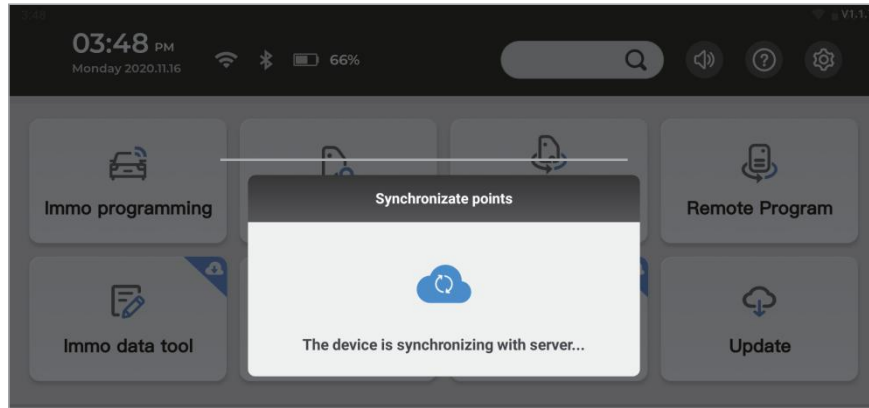

Fig.4.1.8
**Synchronization :** Users can synchronize tokens and collect bonus points. See Fig. 4.1.8